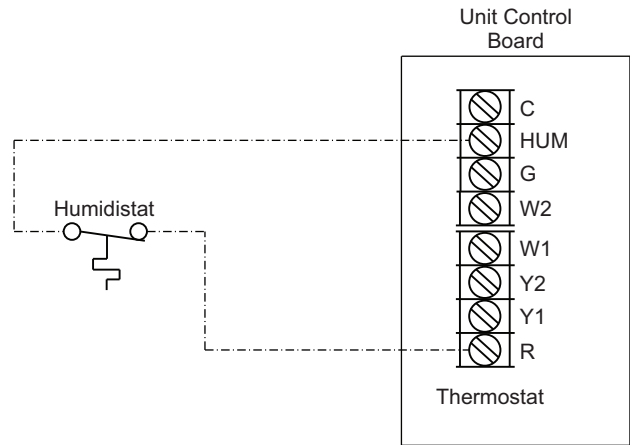

Fig. 40 — Humidistat Connections to UCB
3. Connect one of the leads from the 2-conductor cable to the HUM terminal on the UCB (Unit Control Board). Connect the other lead to the R terminal on the UCB. See Fig. 40.